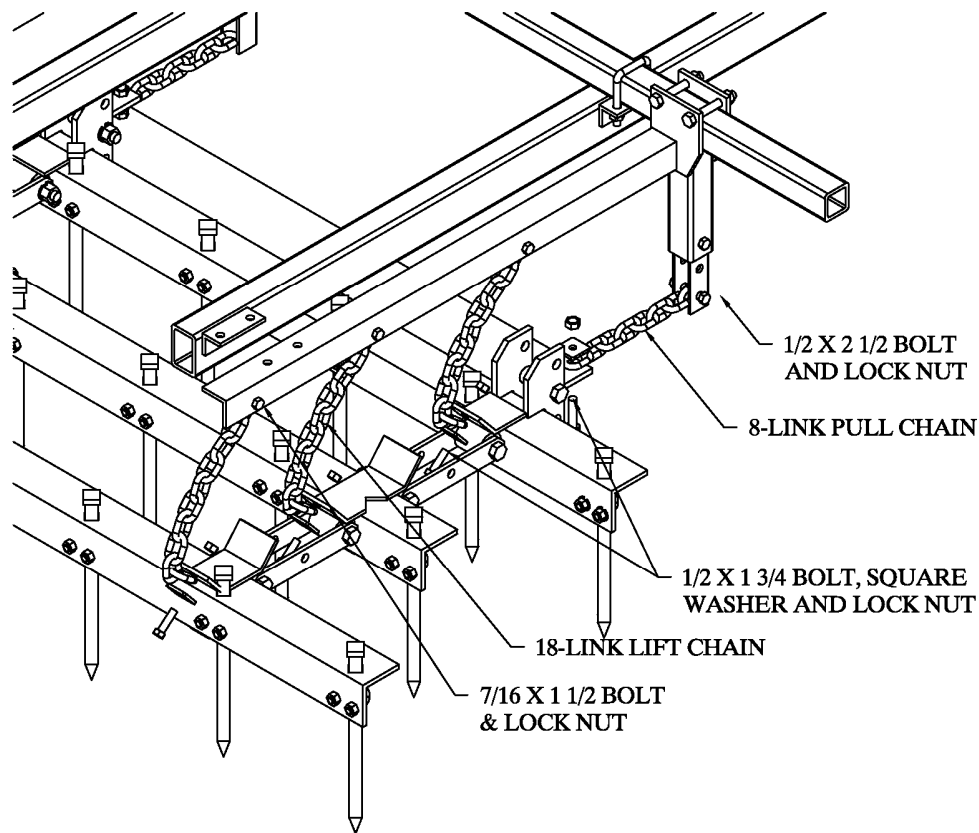

Figure 5
2. Bolt the harrow sections to the pull arms with the chains provided using the fasteners identified in Figure 5. Be sure to use the correct chain in each location.